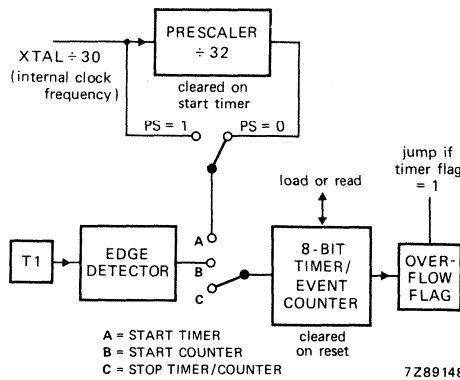

Fig. 17 Timer/event counter.
**Timer/event counter** (see Fig. 17)